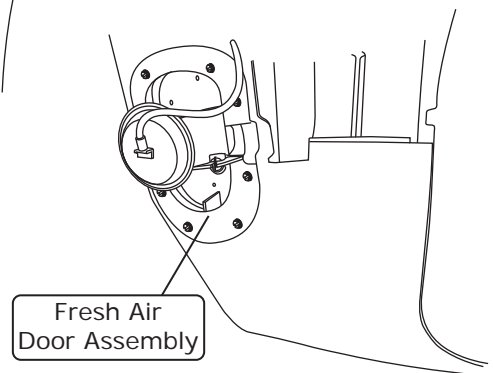

Figure 3
7. Remove the passenger-side kick panel/fresh air door assembly (See Figure 3, below).